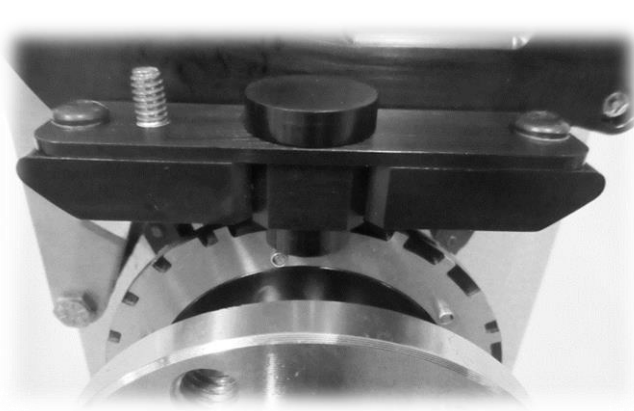

Figure 18
8. Insert the crank sensor alignment tool into the crank sensor mount. Once fully inserted this tool will setup the position of the crank sensor mount such that it, and the crank sensor, are centered over the 24x reluctor wheel. When inserting the tool ensure the slot/notch in the tool runs side to side and engages the 24x crank reluctor on the hub. Also ensure the tool is fully seated. See figures 18 and 19.